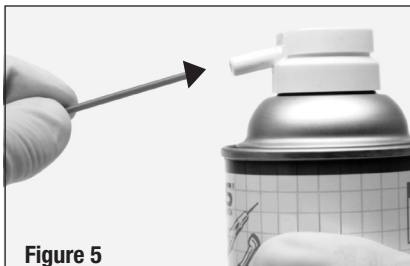

Figure 5
- a. Insert the plastic spray nozzle (included with handpiece) into center of can spray tip as far as possible. Figure 5.